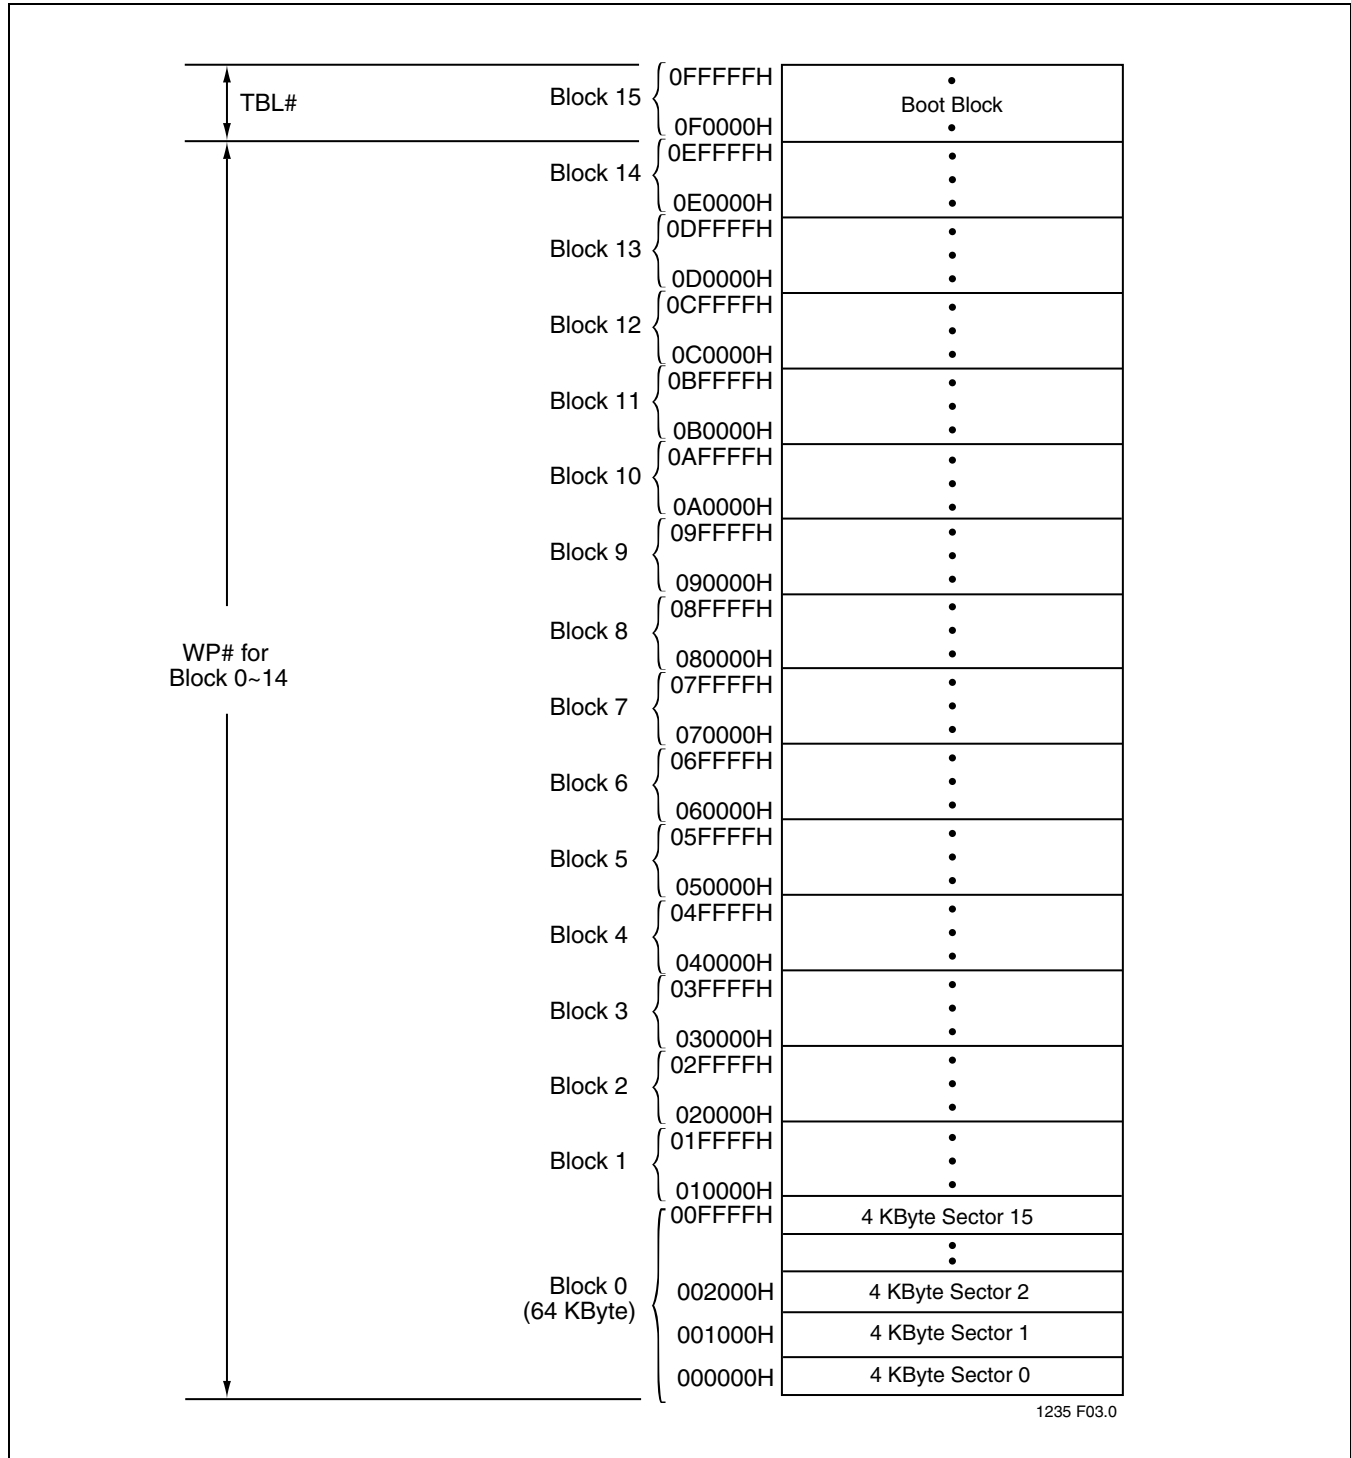

FIGURE 4: Device Memory Map
The SST49LF080A flash memory devices can operate in two distinct interface modes: the LPC mode and the Parallel Programming (PP) mode. The mode pin is used to set the interface mode selection. If the mode pin is set to logic High, the device is in PP mode. If the mode pin is set Low, the device is in the LPC mode. The mode selection pin must be configured prior to device operation. The mode pin is internally pulled down if the pin is left unconnected. In LPC mode, the device is configured to its host using standard LPC interface protocol. Communication between Host and the SST49LF080A occurs via the 4-bit I/O communication signals, LAD [3:0] and LFRAME#. In PP mode, the device is programmed via an 11-bit address and an 8-bit data I/O parallel signals. The address inputs are multiplexed in row and column selected by control signal R/C# pin. The row addresses are mapped to the lower internal addresses (A_{10-0}), and the column addresses are mapped to the higher internal addresses ($A_{\text{MS}-11}$). See Figure 4, the Device Memory Map, for address assignments.